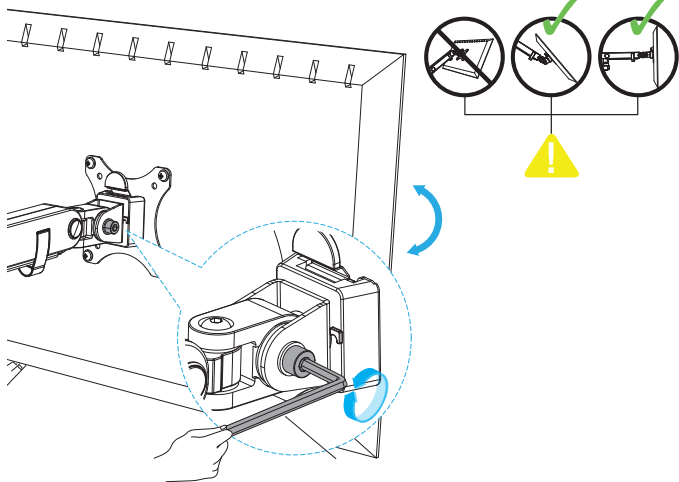

Figure 20
1. Locate the **Tilt Adjustment Screw** near the **Head Slot**. (Figure 20)